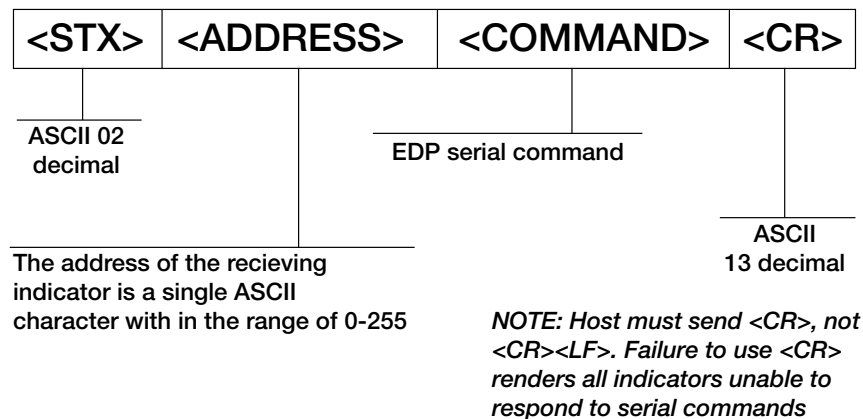

Figure 12-2. RS-485 Send Data Format
All remote commands are initiated using the data format in Figure 12-2:
**Example:** To send the LD command from an ASCII terminal to an indicator at address 65 (decimal) on the RS-485 network, use the format in Figure 12-2 on page 95.
- The indicator address (65) is represented by an upper case "A"
- The carriage return (CR) character is generated by pressing the **Enter** key